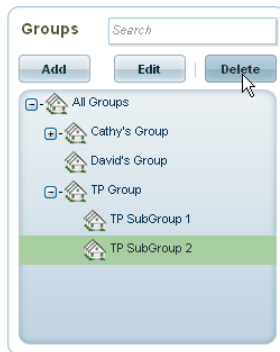

FIG. 180 Location Groups window - Delete button
2. Click the **Delete** button (FIG. 180).